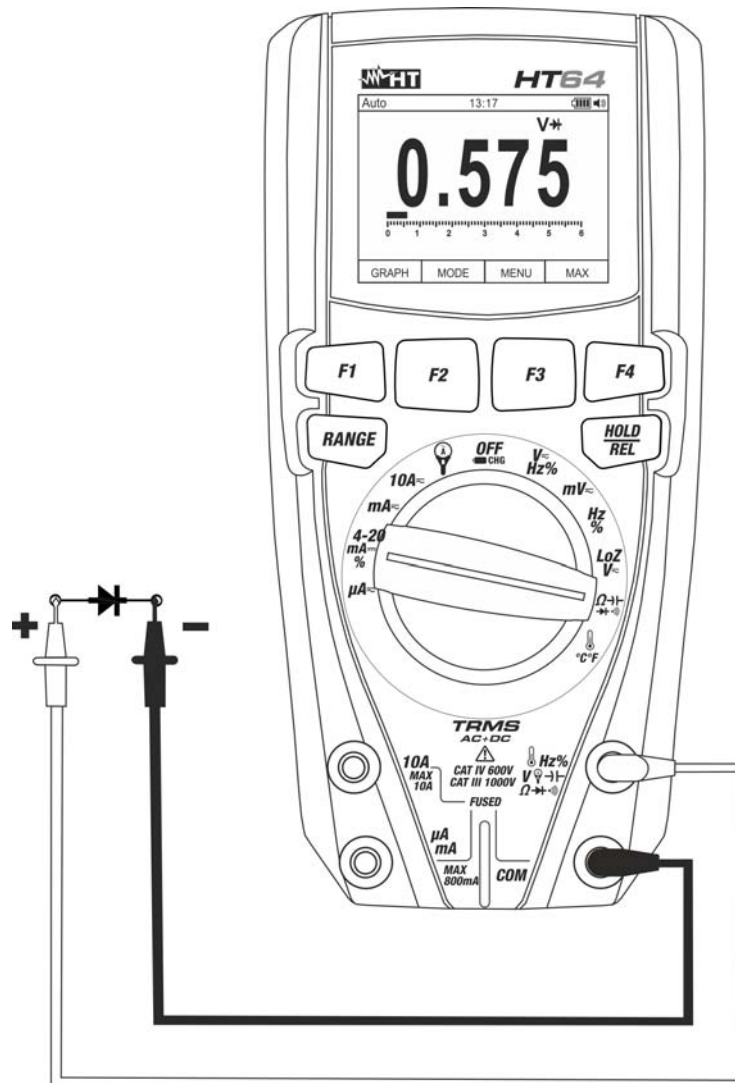

Fig. 27: Use of the instrument for diode test
4. Position the leads at the ends of the diode to be tested (see Fig. 27), respecting the indicated polarity. The value of directly polarized threshold voltage is shown on the display.
6. If the display shows the message "**O.L**", the terminals of the diode are reversed with respect to the indication given in Fig. 27 or the P-N junction of the diode is damaged.